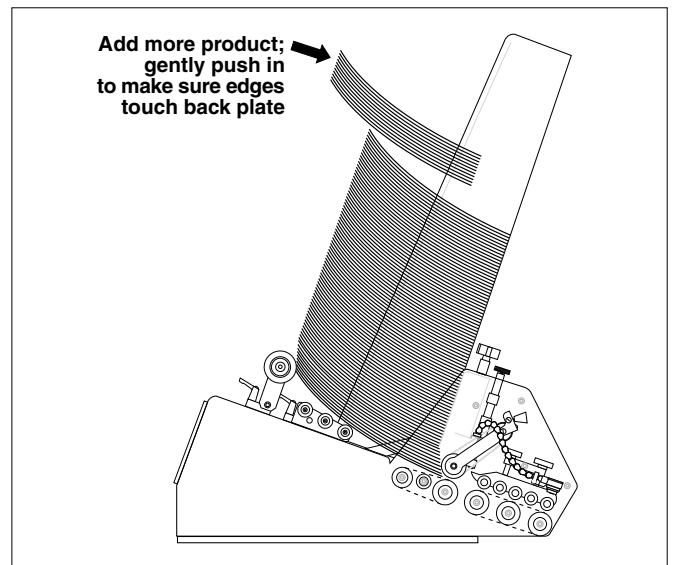

Figure 4-2. Adding More Product to Fill Hopper
2. Gradually add more product to the hopper. As stack height will have a preferred minimum and maximum, you will have to experiment to determine the effective range of height (Figure 4-2).